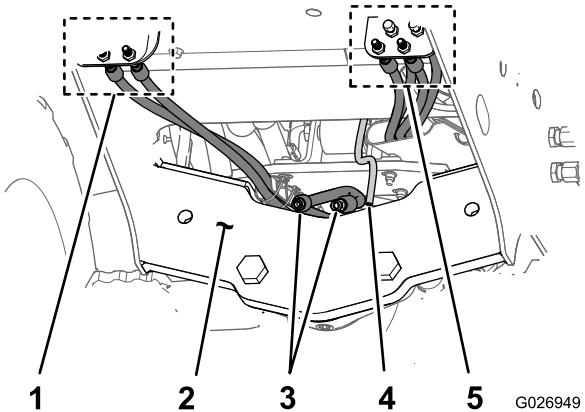

Figure 7
- At the front of the machine, carefully identify and uniquely mark the position of the hoses at the left and right bulkhead panels (Figure 7).
- Remove the hoses from the fittings left and right bulkhead panels and cap the hoses (Figure 7).
2. Connect the hoses to the fittings in the left and right bulkhead panels (Figure 7).